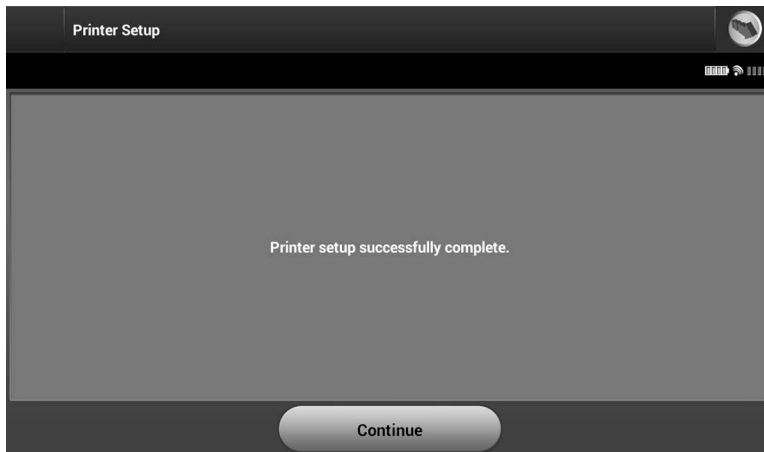

Figure 12: *Printer Setup confirmation screen*
5. Select the Save button to save the changes and return to the Programmer Settings screen, or select Cancel to return to the Programmer Settings screen without saving the changes. A confirmation screen will appear when the printer setup is completed (Figure 12).